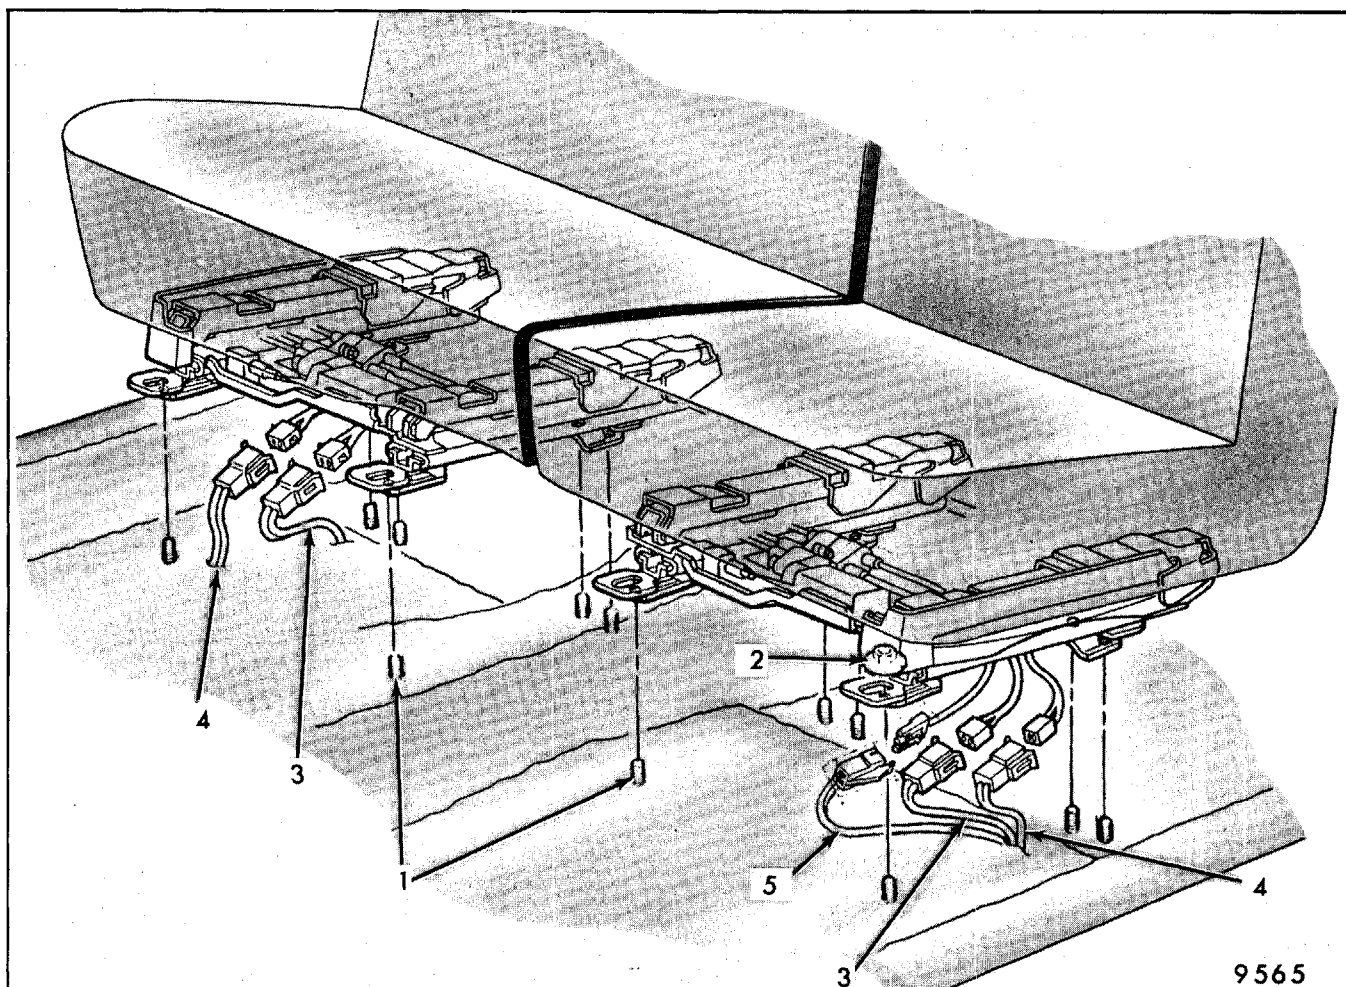

Fig. 9-12 - "B and C" Body Power Operated Seats - 45-55 Seat Shown
2. Figure 9-12 - "B and C" Body Power Operated Seats